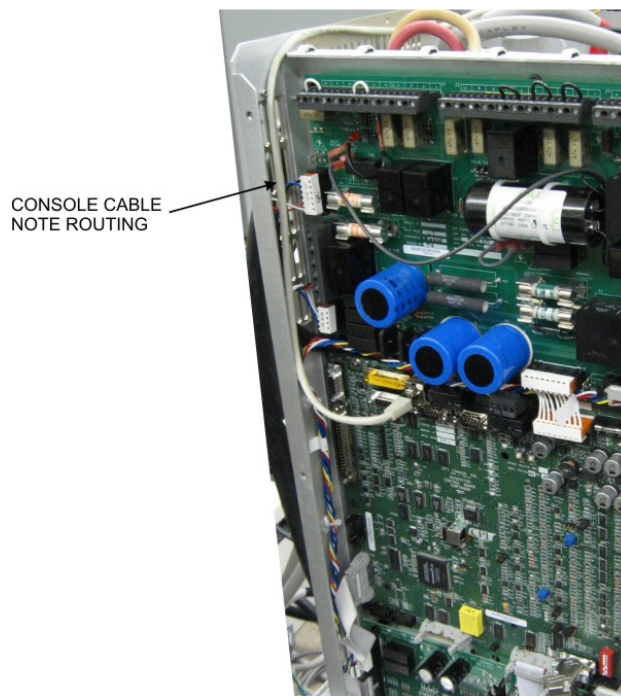

Figure 2-3: Console cable routing
2. Route the generator end of the console cable into the generator cabinet via the cable access slot nearest to the generator control board. The cable must be routed as per figure 2-3. Connect the generator end of the console cable to J3 on the generator control board.
1. Route the generator end of the console cable into the generator cabinet via the cable access slot nearest to the generator control board. The cable must be routed as per figure 2-3. Connect the generator end of the console cable to J20 on the generator control board.
1. Route the generator end of the console cable into the generator cabinet via the cable access slot nearest to the generator control board. The cable must be routed as per figure 2-3. Connect the generator end of the console cable to J19 on the generator control board.